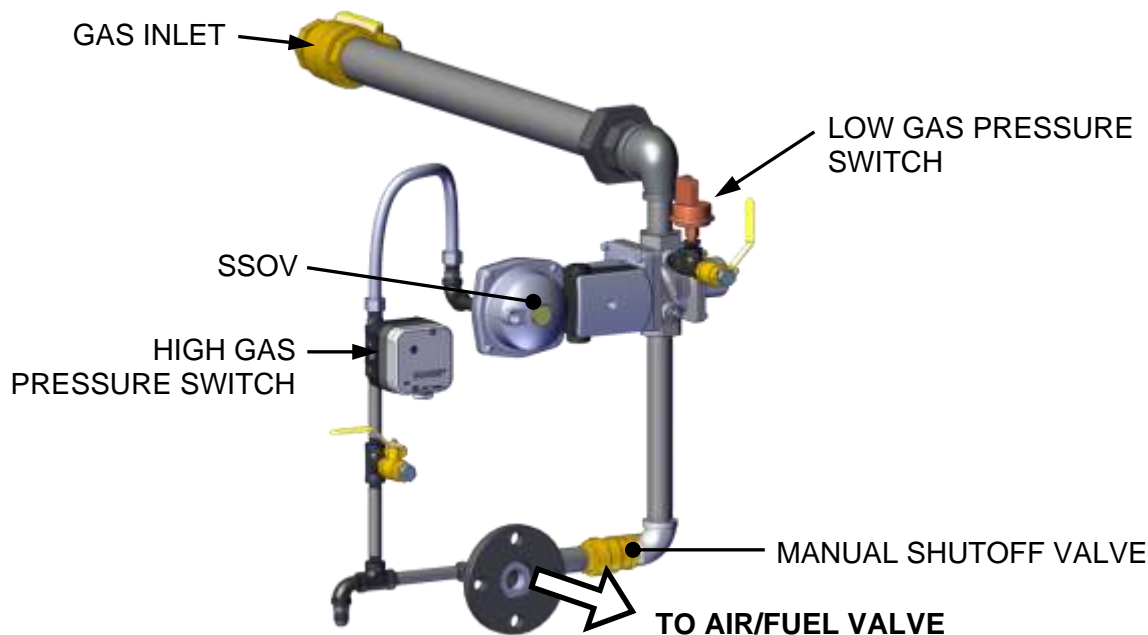

Figure 5.7: Manual Gas Shut-Off Valve Location (INN600N-800N Gas Train Shown)
3. Close the manual gas shutoff valve, located between the Safety Shut-Off Valve (SSOV) and the Air/Fuel Valve (see Figure 5.7).